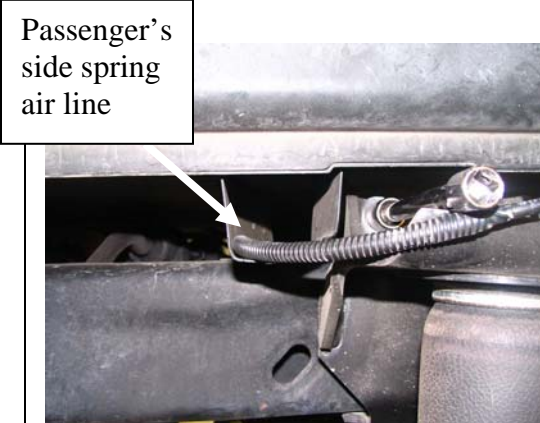

Figure 7
- Route the passenger side air line through the under-bed cross tube (Figure 7)